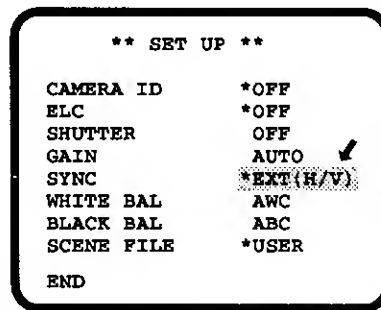

Fig.36.
- Connect the coaxial cable of the external HD and VD Signal to the Gen-lock Input connector (VBS/HD) (20) and VD Input Connector (21) respectively and confirm that the "INT" position changes to "EXT (H/V)" indication as shown in Fig.36.